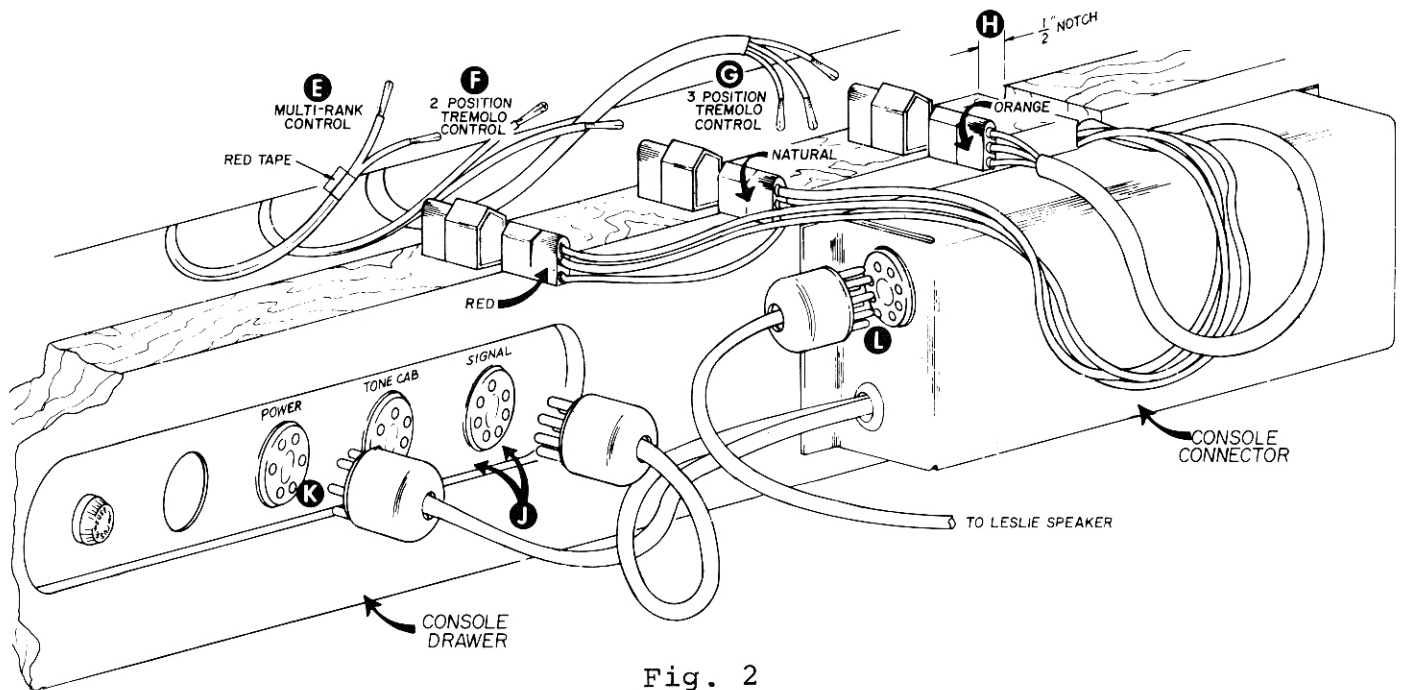

Fig. 2
5. Locate the red taped AC-type zip cord attached to the multi-rank control. Insert its molex pins into slots two and three of the red colored molex plug housing. (See Plugs and Sockets: 7647 Kit and "E" on Fig. 2.)
6. Locate the AC.-type zip cord attached to the 2 position tremolo control. Insert its molex pins into slots two and three of the natural colored molex plug housing. (See Plugs & Sockets: 7647 Kit and "F" on Fig. 2.) Pins are interchangeable.
7. Locate the three wire cable attached to the orange 3 position tremolo control. Insert its black wire into slot no. 1 of the orange molex plug housing. Insert its red wire into slot no. 2. Insert its white wire into slot no. 3. (See Plugs & Sockets: 7647 Kit and "G" on Fig. 2.)
8. Cut a 1/2" notch in the top edge of the lower drawer just beyond the drawer's center retaining screw. (See "H" on Fig. 2.) The sockets for the multi-rank and tremolo control plugs are attached to extension wires inside the console connector chassis. Pull these wires out to full length. Insert them in notch previously cut in the drawer. Make sure wires can reach control plugs.
10. Mount console connector to the face of the drawer so the notch is covered. Use antique bronze screws provided in hardware package. (See Fig. 2.)
12. Connect seven pin plug from console connector to either the SIGNAL or TONE CABINET organ socket. (See "J" on Fig. 2.)
13. Connect six pin plug from console connector to the POWER socket on organ. (See "K" on Fig. 2.)
14. Connect speaker cable supplied to the 9 contact socket at the side of the console connector and the LESLIE Model 600 speaker. (See "L" on Fig. 2.)